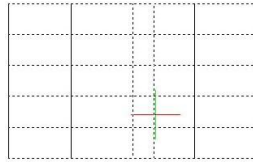

Fig 20
3. Specify the place or distance to drag to (left is positive). (Fig20)